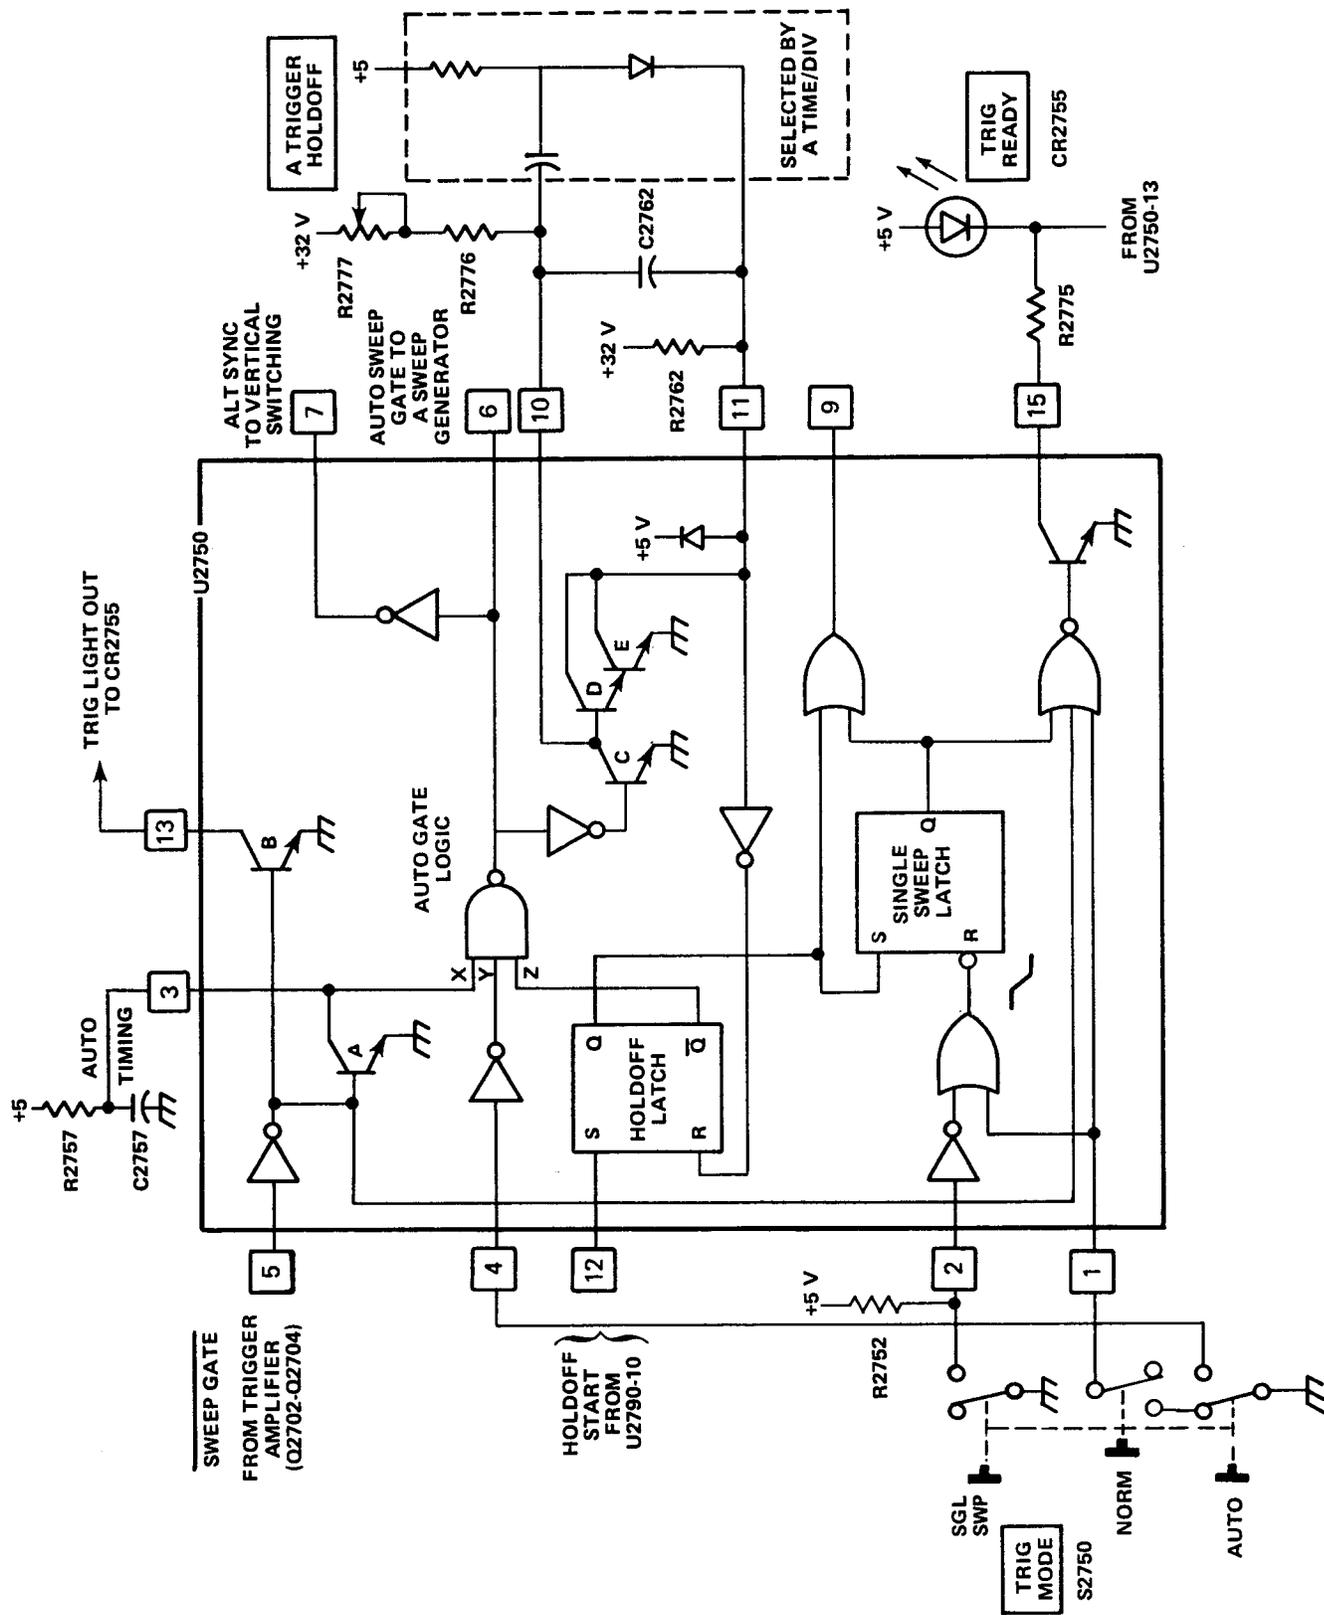
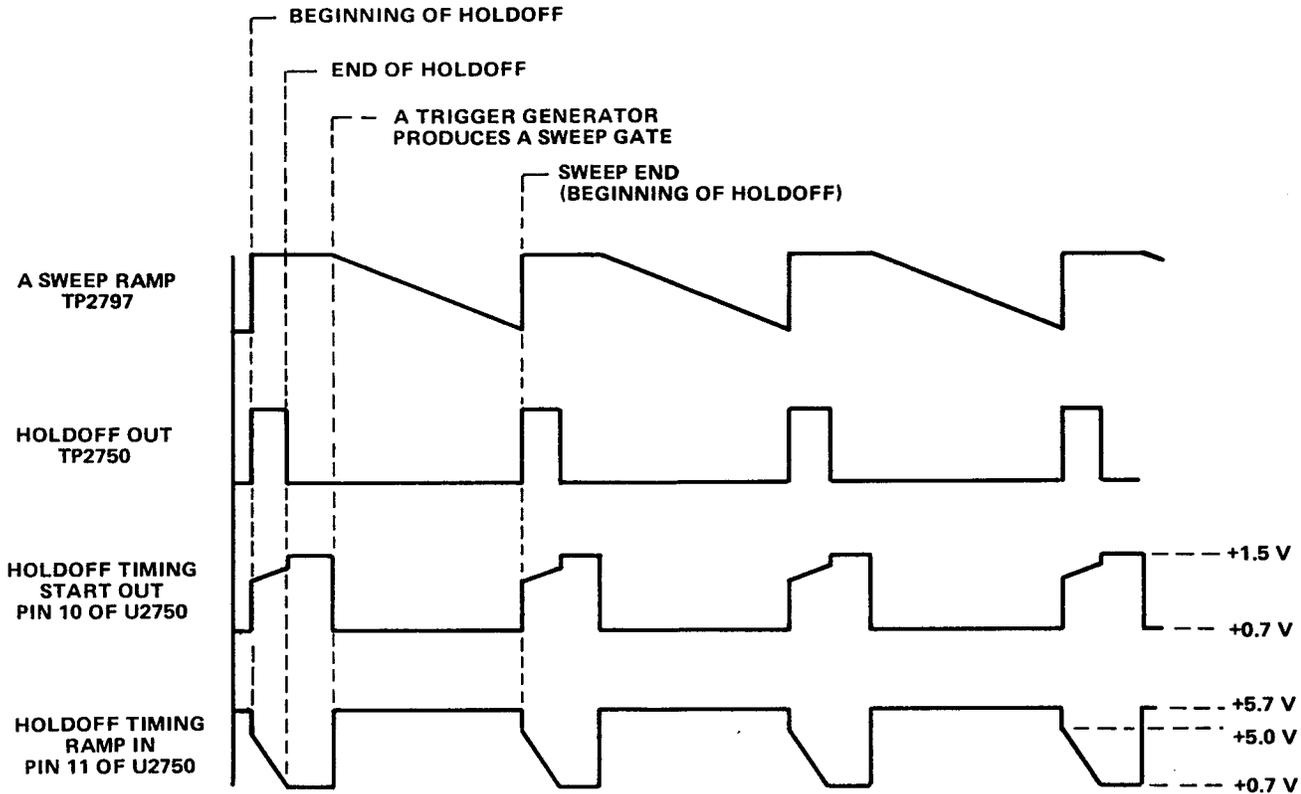
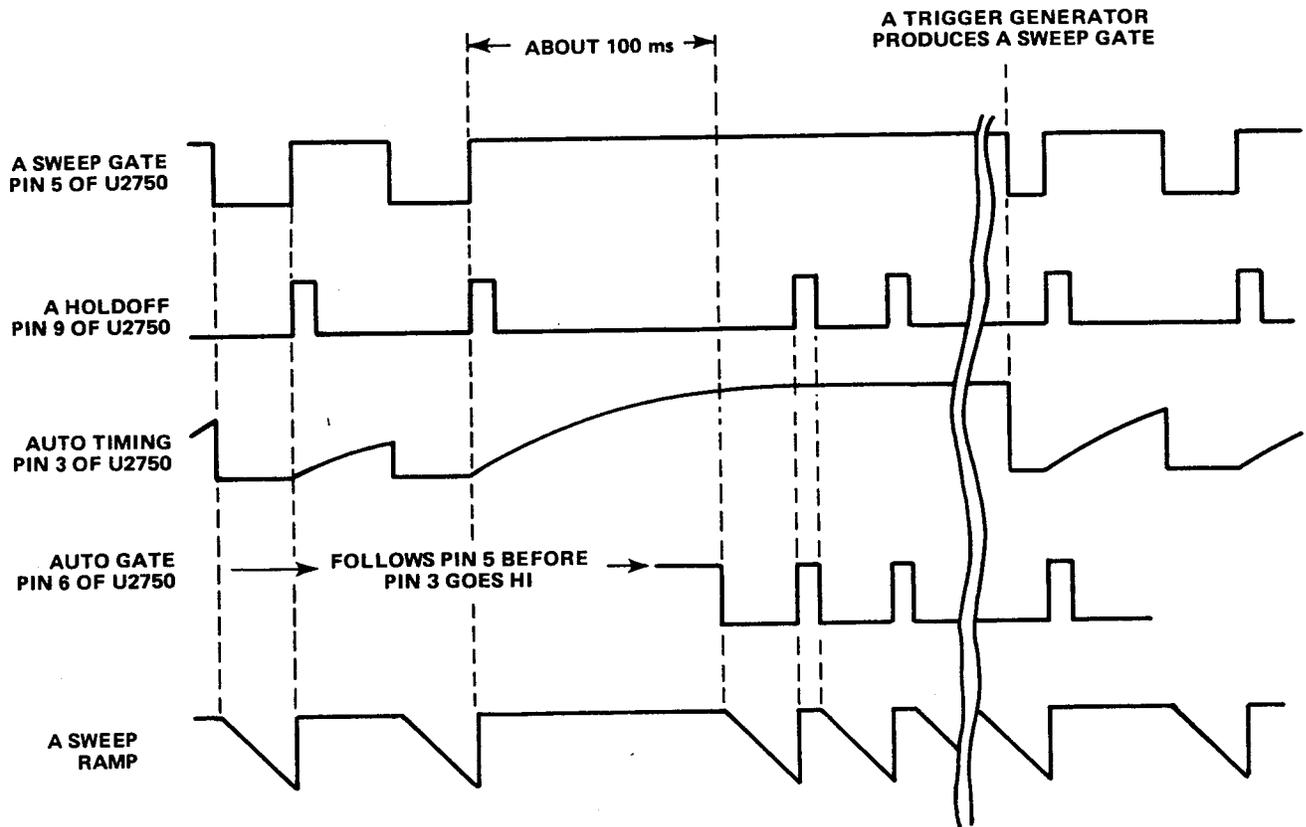

Figure 4-10. Functional block diagram of the sweep control integrated circuit and associated circuitry.
Figure 4-11. Waveforms produced by holdoff control circuitry.
Figure 4-12 Waveforms produced during AUTO sweep gate generation.
(9) Sweep Control. Sweep Control consists of U2750 and associated circuitry. The circuit controls holdoff duration, AUTO sweep, and single sweep operation. Figure 4-10 shows a functional block diagram of U2750 and associated circuitry.
(a) Holdoff Control. Holdoff control is provided by a Miller ramp generator which consists of three transistors within U2750, and an RC network. Resistors R2776 and R2777 are the timing resistors. Capacitor C2762 and a capacitor selected by the A TIME/DIV switch are the timing capacitors. Figure 4-10 shows a functional block diagram of U2750 and associated circuitry. Figure 4-11
1 At the beginning of A sweep generation, pin 6 of U2750 steps LO. This LO passes through an inverting amplifier and turns on transistor C and turns off transistors D and E (see Figure 4-10). When transistors D and E turn off, pin 11 of U2750 is pulled more positive through R2762. Pin 11 is clamped at about +5.7 volts by a diode within U2750. The current through the timing resistors (R2776 and R2777) is supplied by transistor C through pin 10 of U2750. This condition is maintained until the end of A sweep generation.
(b) AUTO Sweep Control. When pin 4 of U2750 is set LO by the TRIG MODE switch, Sweep Control provides a baseline trace in the absence of an adequate trigger signal. Figure 4-10 shows the Sweep Control integrated circuit and associated circuitry. Figure 4-12 shows the waveforms produced during AUTO sweep gate generation.
1 When the TRIG MODE switch (S2750) is set to AUTO, pin 4 of U2750 is set LO. This sets input Y of the AUTO gate logic HI through an inverting amplifier within U2750 (see Figure 4-10).
(c) Single Sweep Control. When the TRIG MODE switch (S2750) is set to SGL SWP, pin 1 of U2750 is connected to ground. Now, when adequately triggered, only one sweep ramp will be generated. After one sweep is displayed, another sweep can't be presented until after the SGL SWP button has been pushed. Figure 4-10 shows a functional block diagram of the Sweep Control integrated circuit and associated circuitry.